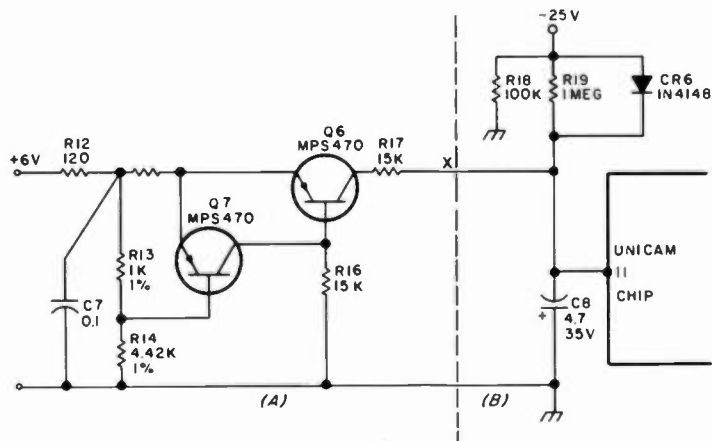

Fig. 1.
Now a "wild" trouble came in. The calculator still worked, but it didn't show "all 8s" when first turned on (see Fig. 1). I lifted off R17 to disable the low voltage cutoff (A) and checked out C8 with my VOM. I got a kick. Next I replaced R19 with another one meg without results.
Schmitt trigger it says here. Looks like Q7 conducts when its base is above 4.0 volts, and cuts off Q6. Below 4 volts Q6 conducts, loading R19 and giving a permanent all 8s display. There may be a question about having two features on a single indication. But I'd miss the initialization (love that term!) and the low voltage cutoff is kind of fun, too. Now I have reason to believe that the calculator and display end will work on as little as two volts (!) with Fig. 1 disabled. Of course, the bulb won't light either, but the display can be read by light reflected off a white tablecloth. I know both will work with 4 V and that's a dead battery. The bulb is a 6 V 150 mA deal, and could be replaced with a 2 V 60 mil one and a 75 Ohm resistor. Less bright, and should serve OK. Could even put a filament rheostat in it — or switch out a couple of 20 Ohm sections. These are, however, sub-desperation measures, and by no means essential. You will get pretty good life as it is.